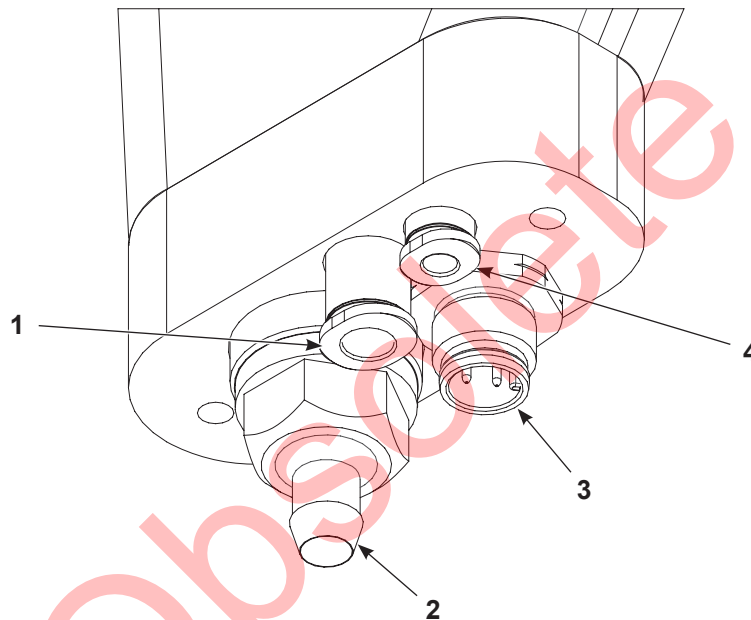
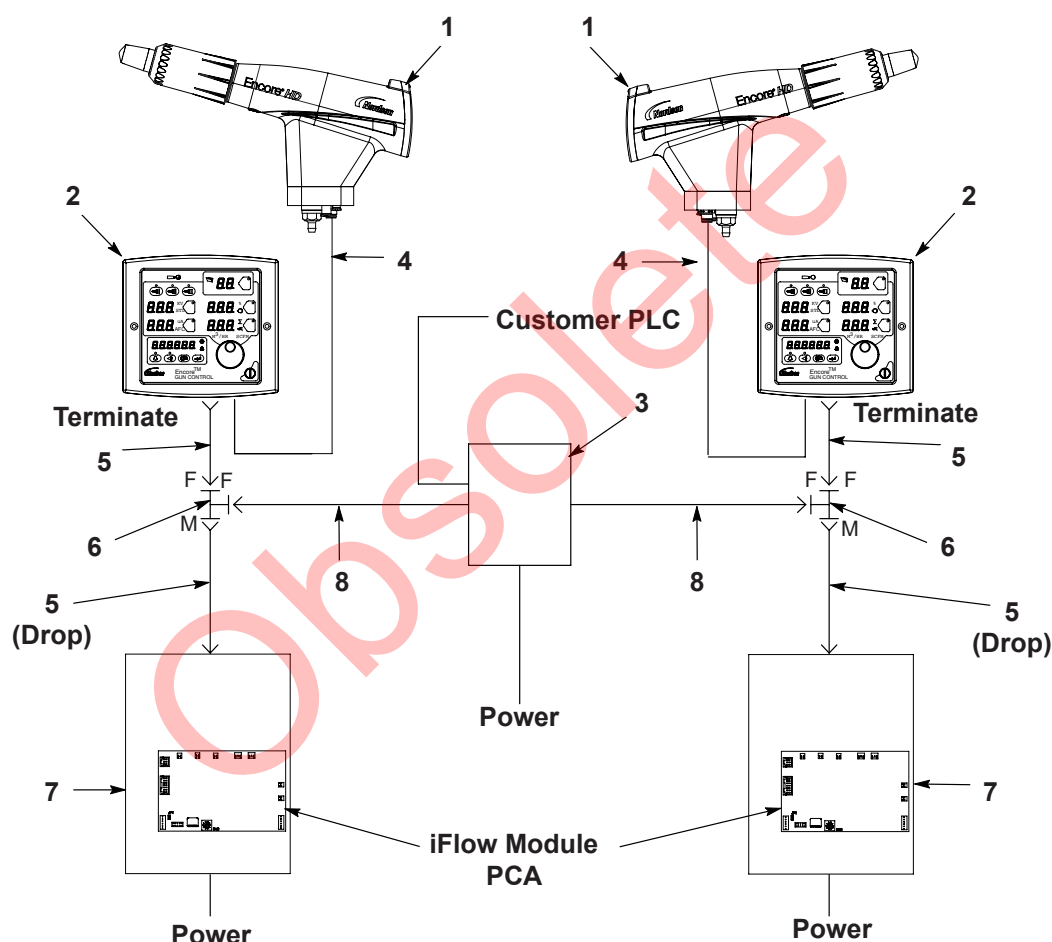

Figure 3-2 Spray Gun Connections
Figure 3-3 Connections for 2 Spray Gun Robot Systems
See Figure 3-2 and Figure 3-3 for spray gun connection illustrations.
Figure 3-3 shows a typical dual robot spray gun system and the connections required for CAN communication between the Encore Controller Interface and the customer PLC.
See Figure 3-3. Each Encore controller interface (2) must be configured with the function codes set to the values listed in Table 3-1 for each spray gun in a dual robot spray gun system.
1. See Figure 3-3. Access the iFlow PCA inside the Encore HD pump control unit (7).